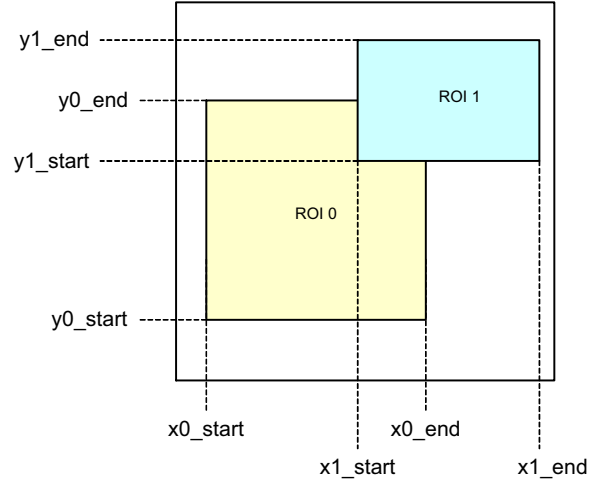

Figure 27. Overlapping Multiple Window Configuration
- Up to thirty-two windows can be defined, possibly (partially) overlapping, as illustrated in Figure 27.